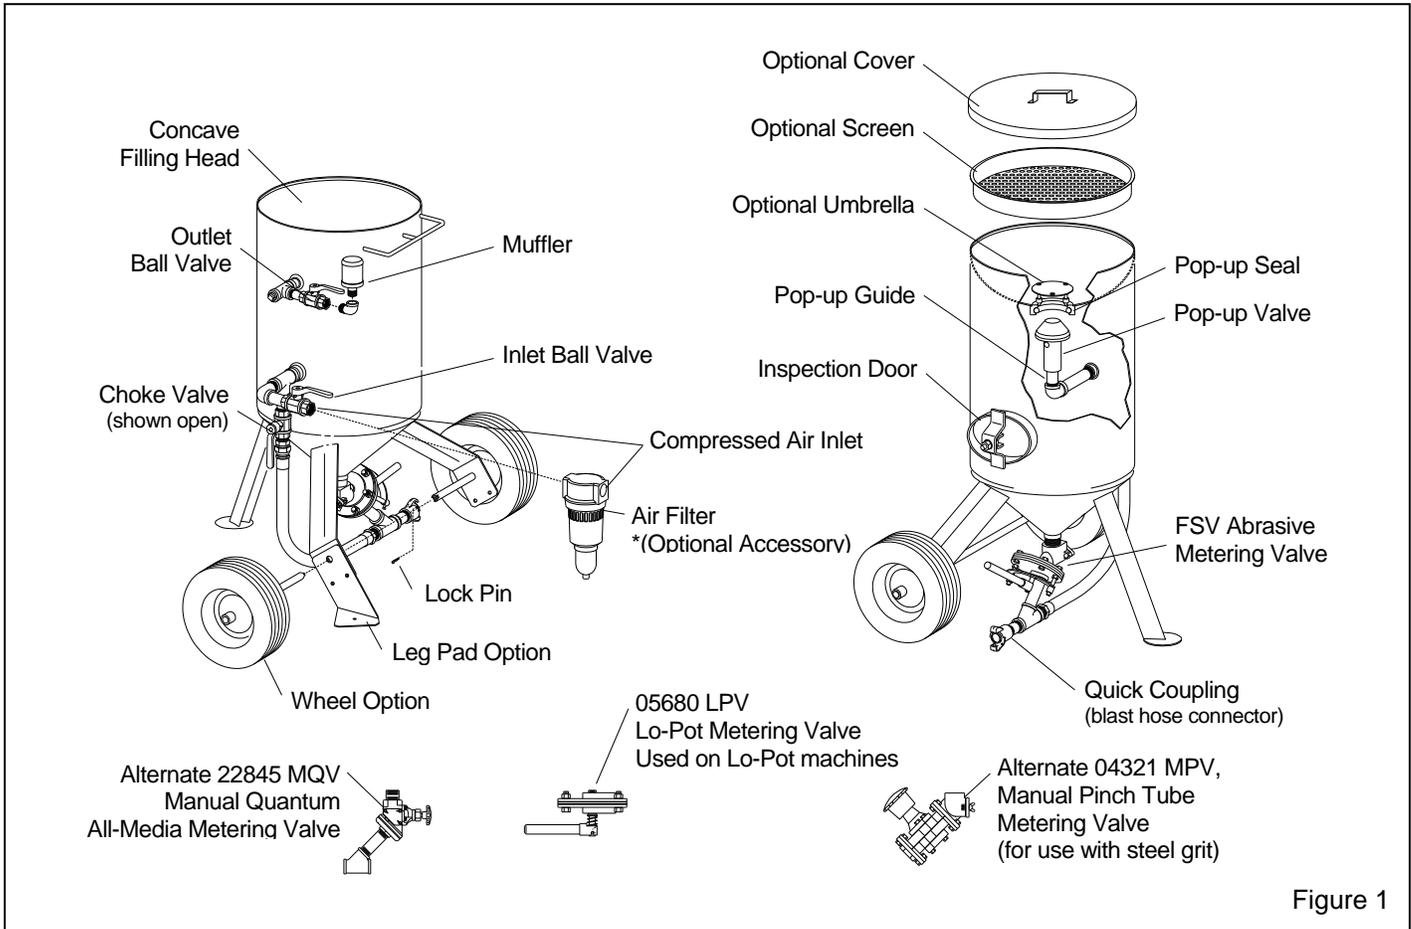

Figure 1
1.3.1.1 The primary components of the blast machine are shown in Figure 1.
Clemco supplies an exhaust muffler with all blast machines of 2 cu. ft. capacity and larger. The muffler reduces exhaust noise and prevents abrasive from exhausting upward or sideways into the air. When the blast machine is depressurized, the muffler body pops up to diffuse the air and abrasive. When the machine is fully depressurized, the muffler body drops, permitting trapped abrasive to empty. For the muffler to work properly, it must be installed with the body facing up, as shown in Figure 1.